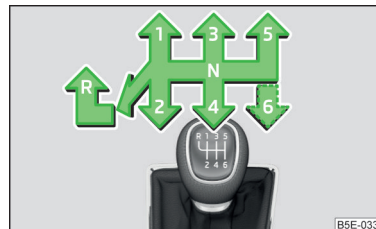

Fig. 126
The shift pattern for the individual gear positions is shown on the gear lever » Fig. 126.
- › Push the shift lever downwards fully to the left and then forward into **R**» Fig. 126.